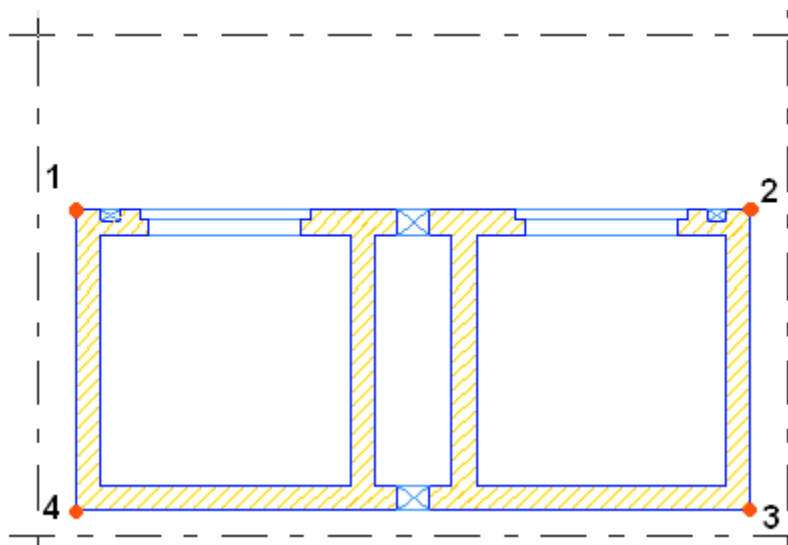

Figure 190: Placing the slab
2. Click the slab corners as in the Figure 190.